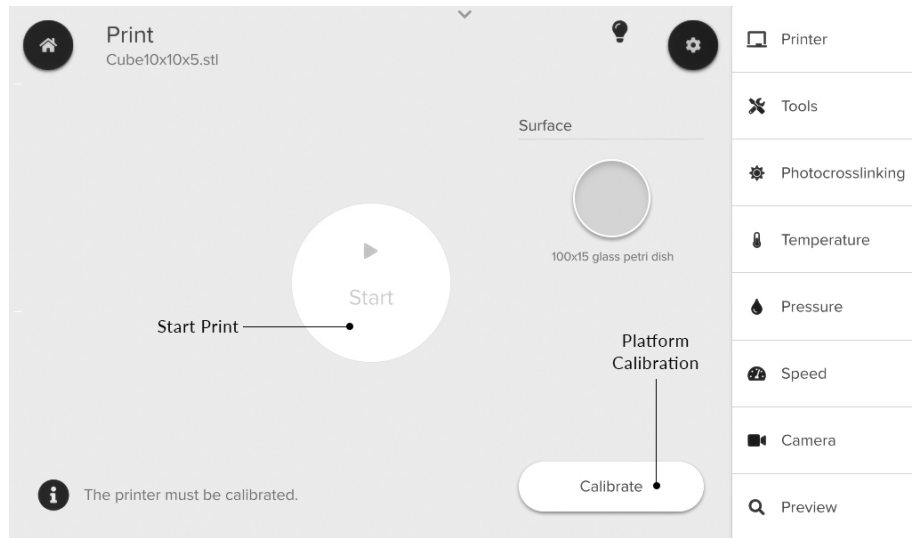

Figure 12: Use the Bioprint menu to calibrate the system and start the bioprinting process.
9. Select Calibrate to calibrate the system to the desired start position (Figure 12). Bring the tip of the nozzle/needle to your desired starting position. We recommend making sure that the tip touches the surface of your printing substrate.
10. Start the bioprinting process (Figure 12).